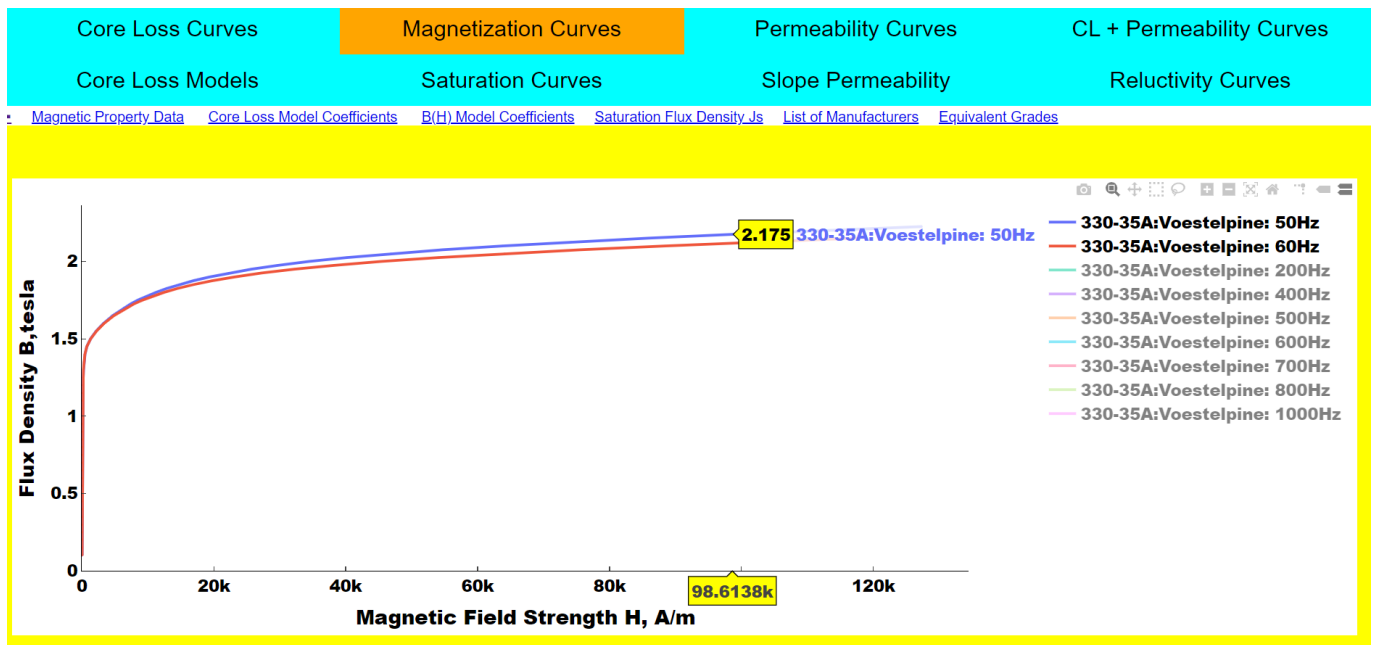

Figure 10. **SMAG Visualizer** shows how 50Hz and 60Hz magnetization curves differ.
Fig. 10, generated by the **SMAG Visualizer** software, reveals how B(H) curves vary with frequency. It shows that they differ slightly with frequency. Thus, for accurate simulation, it is preferable to use the B(H) data closest to the operating frequency. Such data is available in the **SMAG Database**.